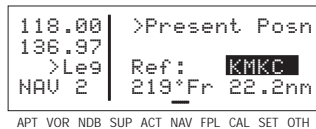

Figure 3-117
4. If this is the waypoint you intend, press ENT again. The display will return to the NAV 2 page (figure 3-117).